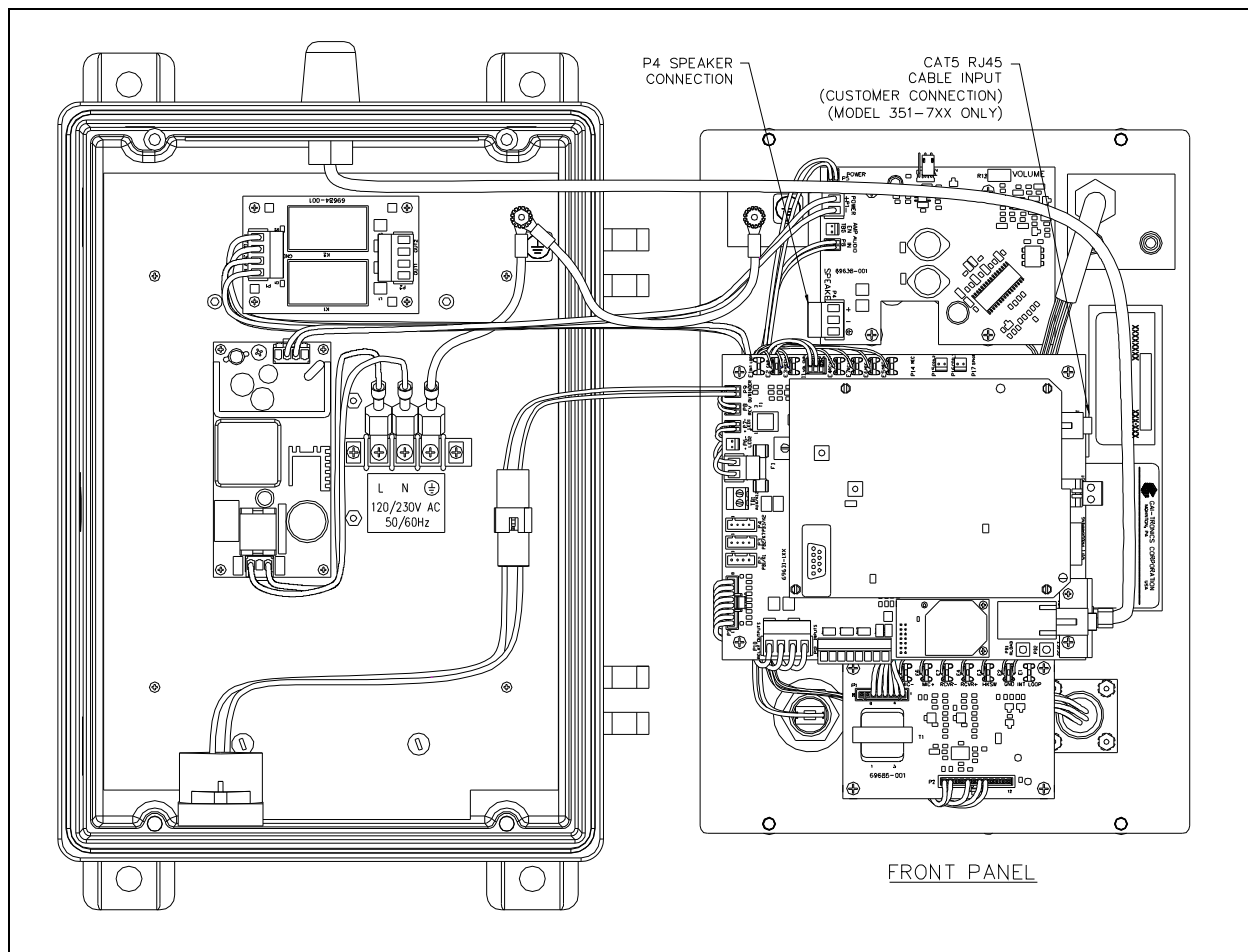
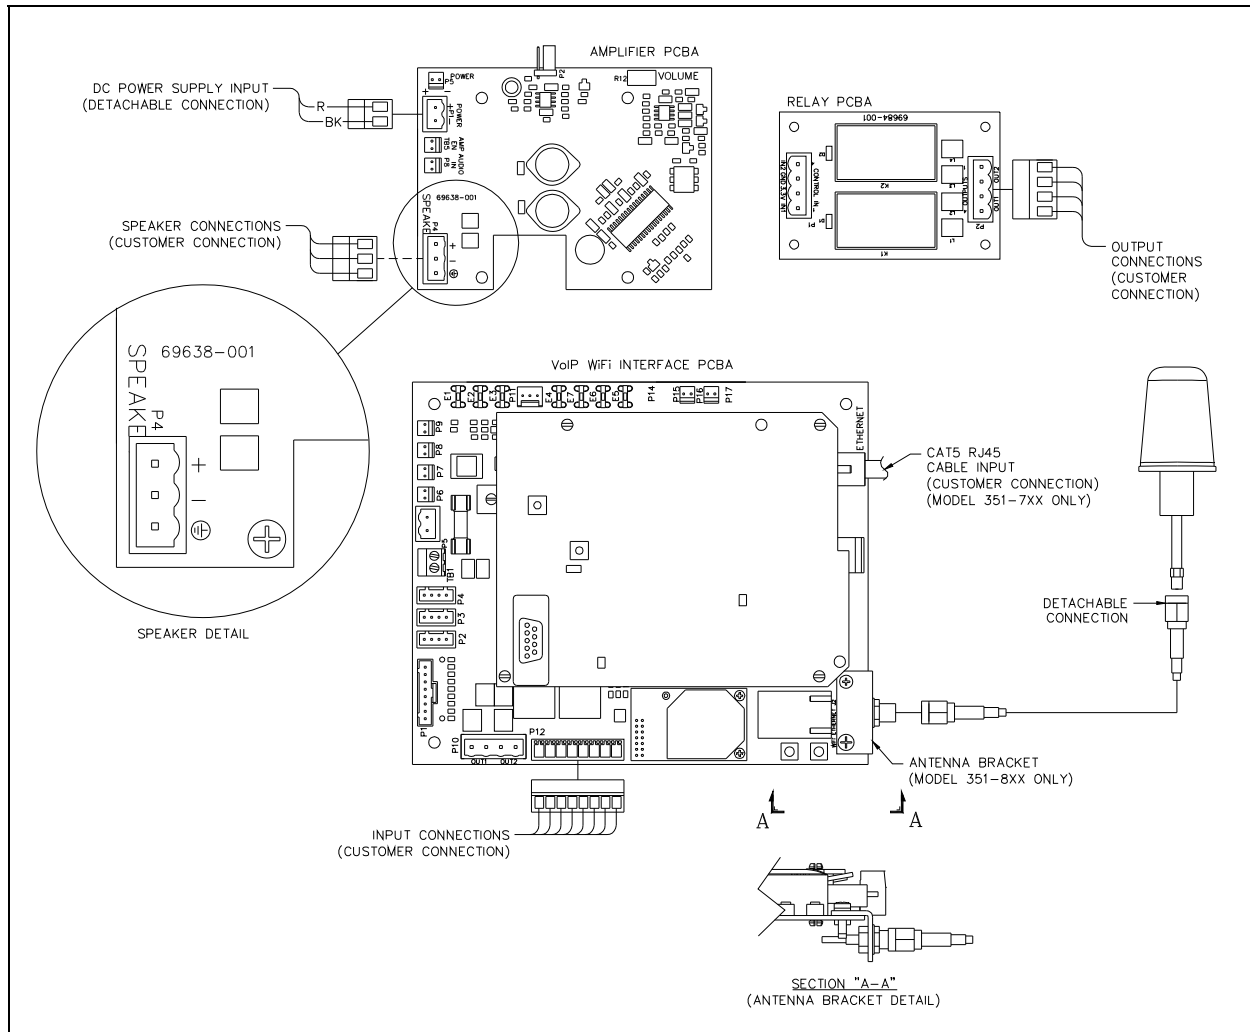

Figure 6. Installation and Maintenance Configuration
Figure 7. Internal PCBA Connections
2. Hang the front panel on the front door by hooking a small piece of wire in the mounting holes of the panel. The front panel interior surface and the back box interior now face you (see Figure 6).
3. For wired versions, plug the incoming Category 5 data line into the network RJ45 cable jack on the underside of the VoIP circuit PCBA (see Figure 6 and Figure 7).
Install any additional connections as indicated below (refer to Figure 7 for wiring details and Table 5 for the recommended conductor sizes).
Connect a Category 5 or better UTP cable with an RJ45 connector between the LAN (Local Area Network) and the VoIP PCBA (see Figure 7).
Four clean dry-contact auxiliary inputs have been provided for customer use. Terminations for these inputs are provided on terminal block P12 (see Figure 7). Connect each input between the desired input (INPUT 1–4) and common (GND) on terminal block P12. Refer to the Inputs section of GAI-Tronics Pub. 42004-481, VoIP Telephone Basic Programming Guide, for programming instructions for these inputs.
Two outputs have been provided for customer use. Terminate these outputs on connector P2 on the Relay PCBA (see Figure 7). The function of each output is configurable and can be configured for one of the following modes: